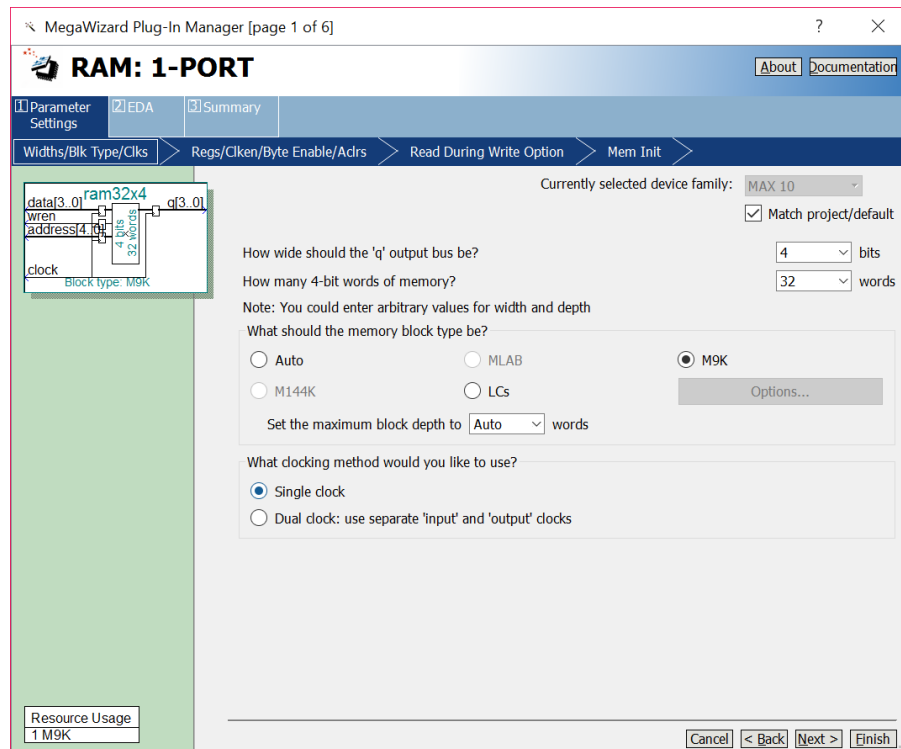
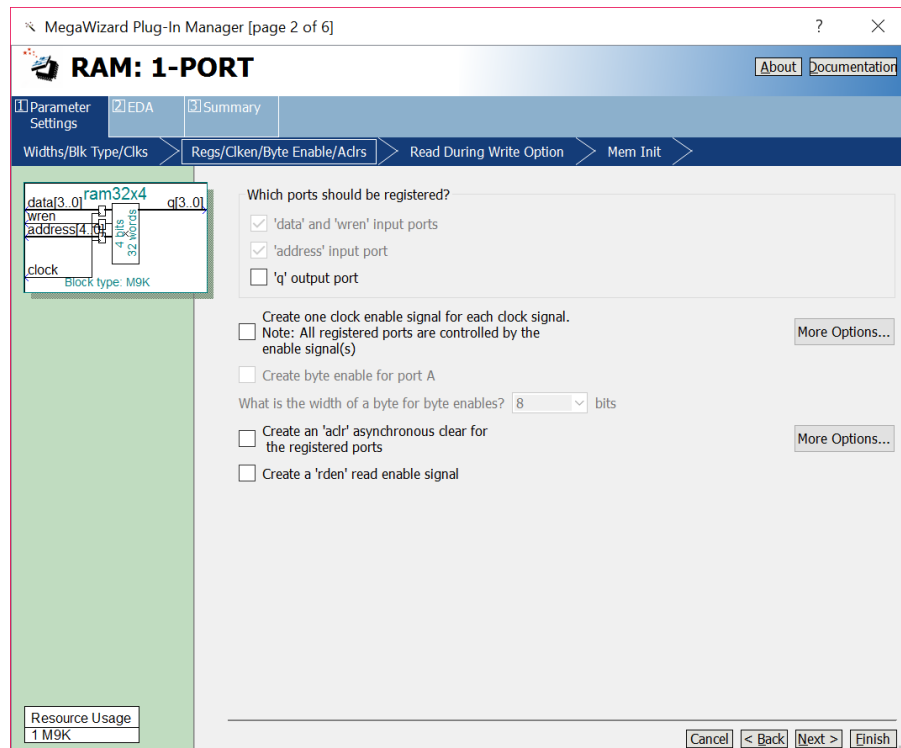

Figure 2: Configuring the size of the memory module.
Figure 3: Configuring input and output ports.
2. To open the IP Catalog in the Quartus software click on Tools > IP Catalog. In the IP Catalog window choose the *RAM: 1-PORT* module, which is found under the Basic Functions > On Chip Memory category. Select VHDL as the type of output file to create, give the file the name *ram32x4.vhd*, and click OK. As shown in Figure 2 specify a memory size of 32 four-bit words. Select M9K if your DE-series board has a MAX 10 or Cyclone IV FPGA, otherwise select M10K. Also on this screen accept the default setting to use a single clock for the memory's registers, and then advance to the page shown in Figure 3. On this page *deselect* the setting called 'q' output port under the category Which ports should be registered?. This setting creates a RAM module that matches the structure in Figure 1b, with registered input ports and unregistered output ports. Accept defaults for the rest of the settings in the Wizard, and click the Finish button to exit from this tool. Examine the *ram32x4.vhd* VHDL file which defines the following subcircuit: